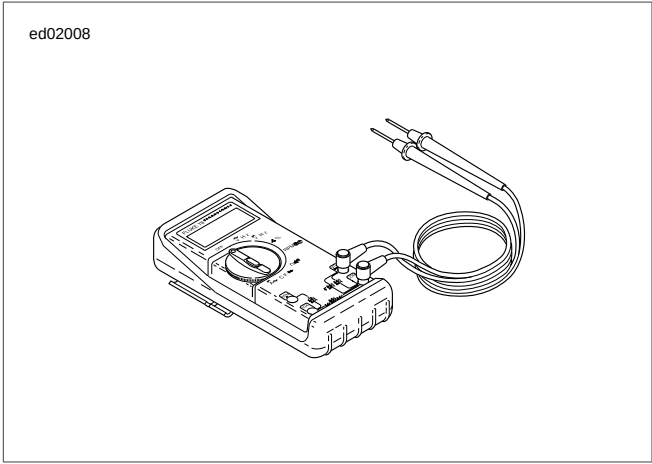

Figure 1-44. Digital Multimeter (Fluke 78) (Part No. HD-39978)
- See Figure 1-44. Connect DIGITAL MULTIMETER (FLUKE 78) (Part No. HD-39978) to wiring harness between the suspect connections. When diagnosing ECM connections, use BREAKOUT BOX (Part No. HD-48637) to simplify the procedure. See 1.2 DIAGNOSTIC TOOLS.